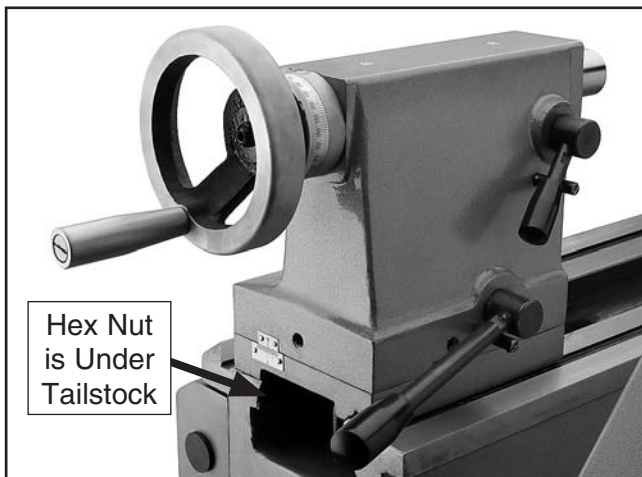

Figure 87. Tailstock nut and gib adjustment.
3. Tighten the tailstock hex nut $\frac{1}{4}$ turn at a time until the tailstock will not move when pushed by hand. Repeat as necessary (see **Figure 87**).